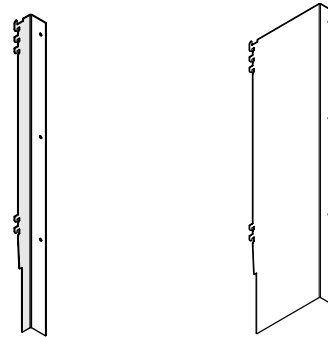

**Figure 1**
1. Position and align the outer corner of the storage standard panel mount bracket with the outer corner of the pedestal, parallel to the vertical edge of the laminate pedestal, (Figure 1).